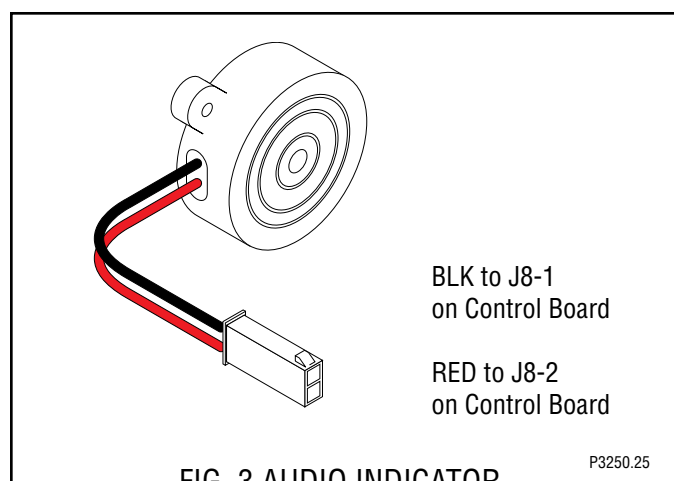

FIG. 3 AUDIO INDICATOR
7. Refer to Fig. 3 when reconnecting the wires.